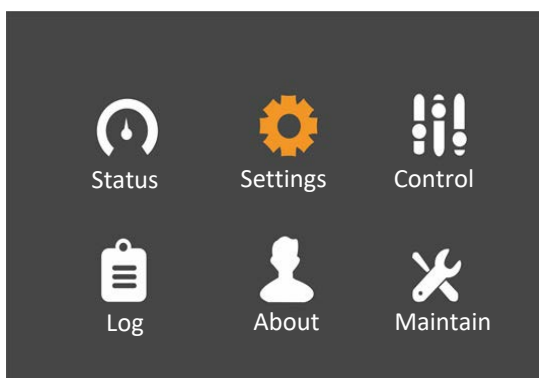

Figure 2-18 Main menu screen
a) At main menu screen, press the  or  key to select 'Settings', and press the  key to enter the interface shown in Figure 2-18.